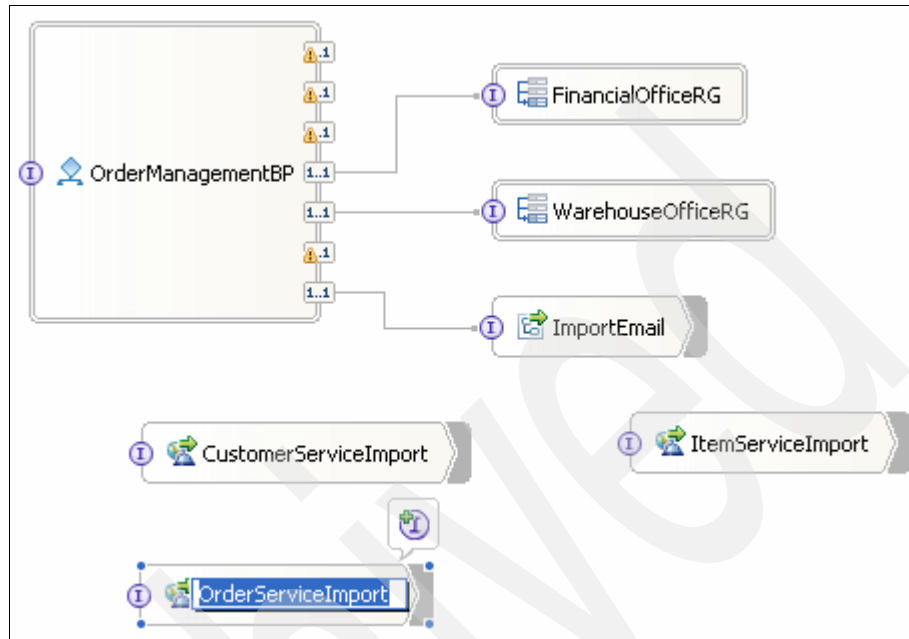

Figure 7-13 OrderManagement assembly diagram with customer, item, and order imports
5. Repeat similar steps for item and order so that the diagram looks as shown in Figure 7-13.